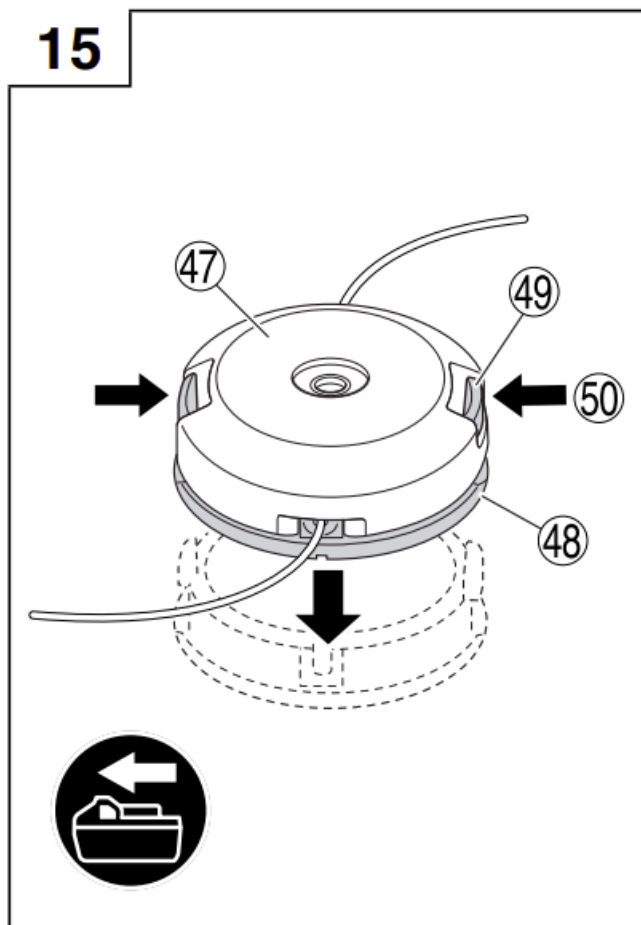

Fig. 15
2. Press the opposing tabs, and then remove the cover from the case. (Fig. 15)